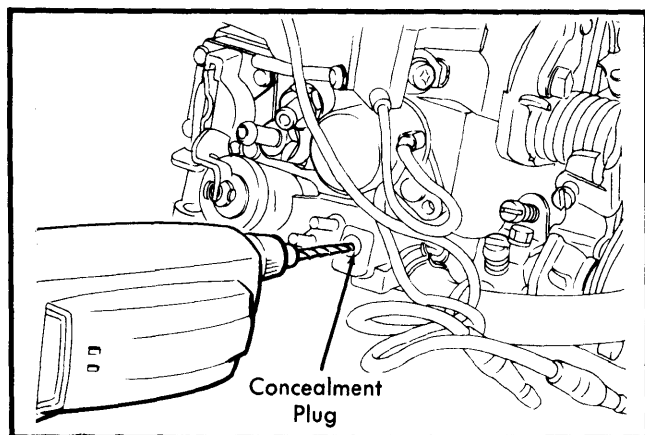

Fig. 3 Drilling Out Concealment Plug
- 1) Remove carburetor from engine and place on bench in suitable holder. Drill out concealment plug and remove from carburetor. See Fig. 3. Drive out roll pin. With concealment plug and roll pin removed, reinstall carburetor on engine.